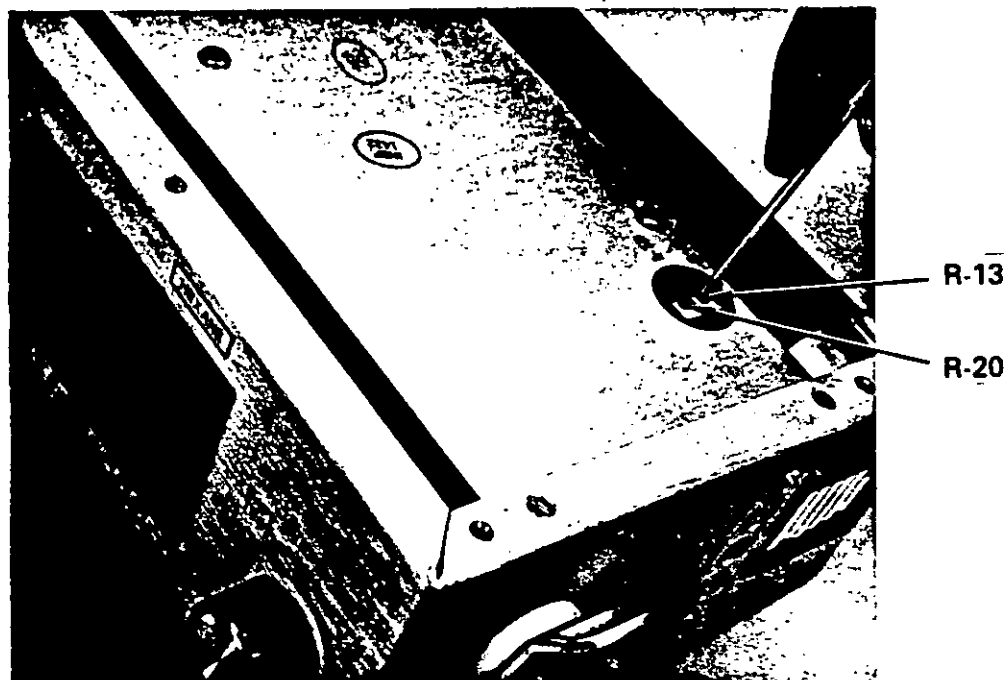

Figure 2-3. Locating and adjusting R-13 on PPMX100 position for meter pointer indication of scale zero.
Refer to Figure 2-4 locating TP-3 and connect a Voltmeter between TP-3 (+) and ground (-), check for 6VDC. If not, refer to Figure 2-3 locating R-20 and adjust for 6VDC $\pm .01$ VDC.
- 4) After allowing for five-minute warm-up, turn MODE SELECTOR switch to PPMX100 position and adjust R-13 (see Figure 2-3) for meter pointer indication of scale zero.